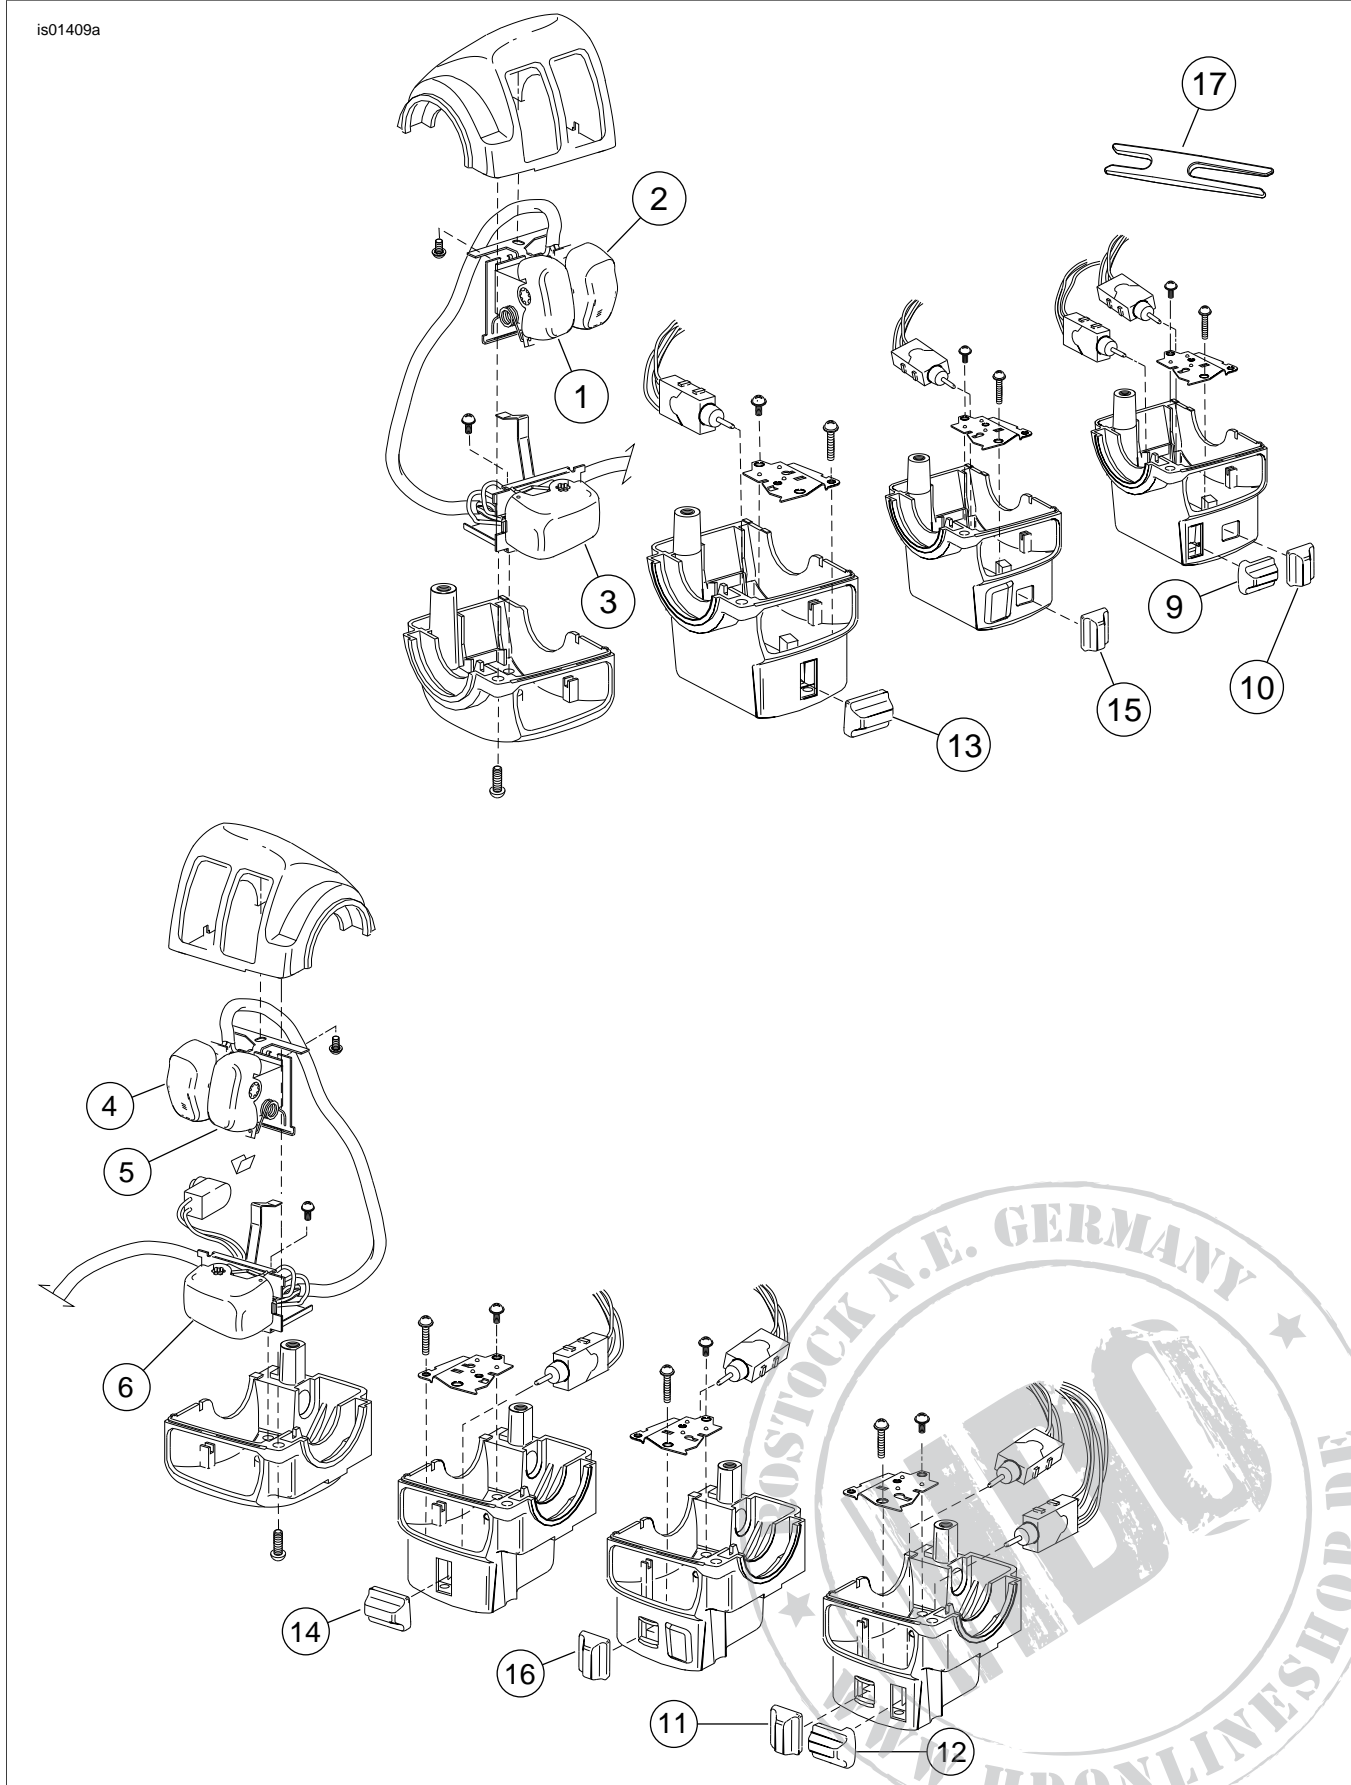

Figure 5. Service Parts: chrome Handlebar Switch Caps
See Figure 5 and Table 2.
2. See Figure 1 and Figure 5. Carefully pry stock black switch cap up off the splined actuator shaft (2) on left side of switch.
3. Pry the switch cap up and away from pivot pin (3) on right side of switch and remove cap.
4. See Figure 5. Select proper chrome replacement switch cap from kit.
1. See Figure 1 and Figure 5. Carefully pry stock black switch cap up off the splined actuator shaft (2) on switch.
2. Pry the switch cap up and away from pivot pin (3) on switch, and remove cap.
4. See Figure 5. Select proper chrome replacement switch cap from kit, then slide the cap onto the shaft.